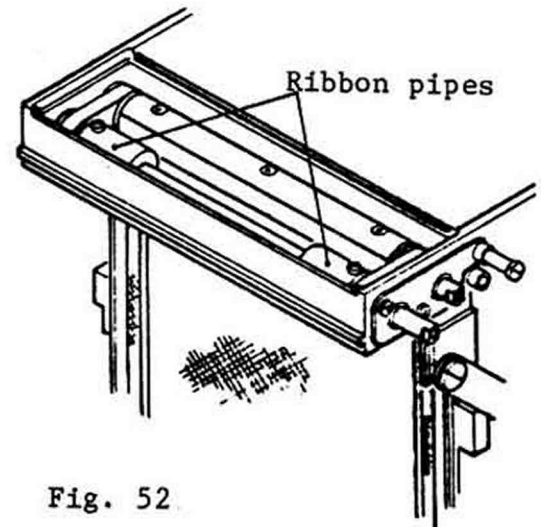

Fig. 52
- a. If it is impossible to adjust by step 1) and 2), change the overlap of 1st curtain metal to the 2nd curtain metal by resetting the ribbon pipes of the 1st curtain as shown in Fig. 52.